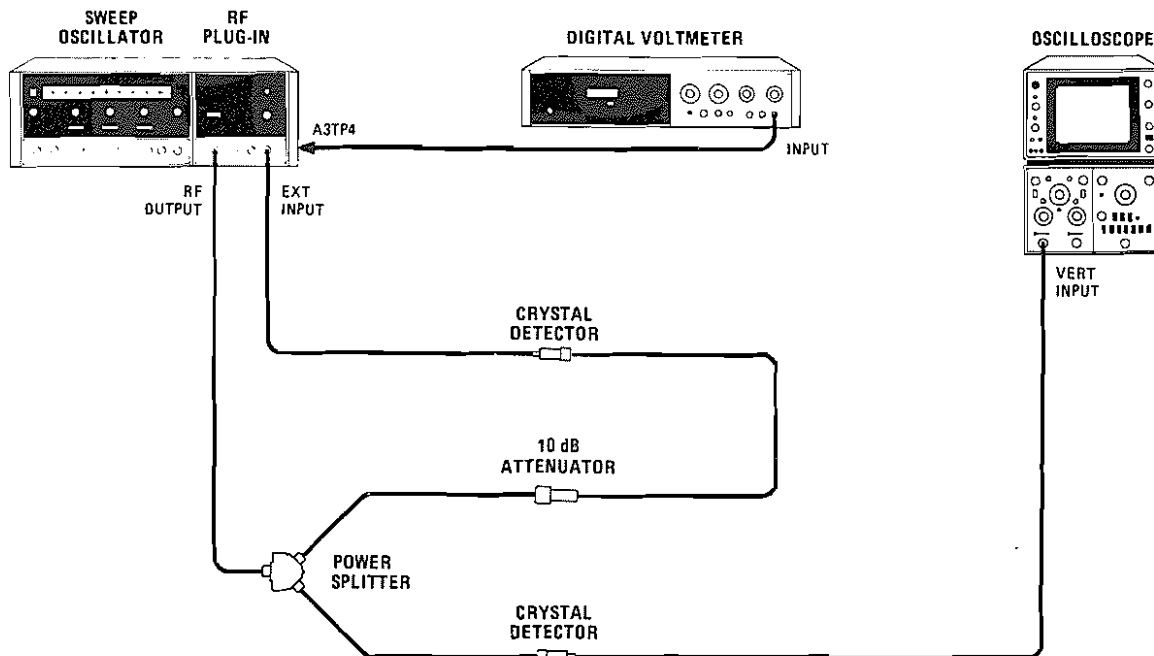

Figure 5-9. External Leveling Adjustment Test Setup
- a. Connect equipment as shown in Figure 5-9.